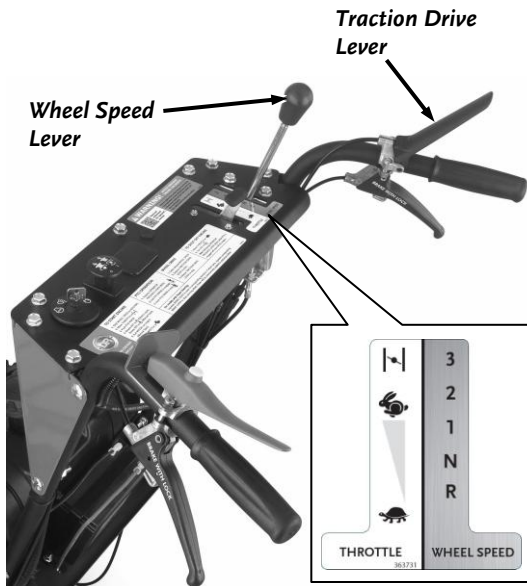

Figure 19
- Move the Wheel Speed Lever to the desired gear (**Figure 19**).